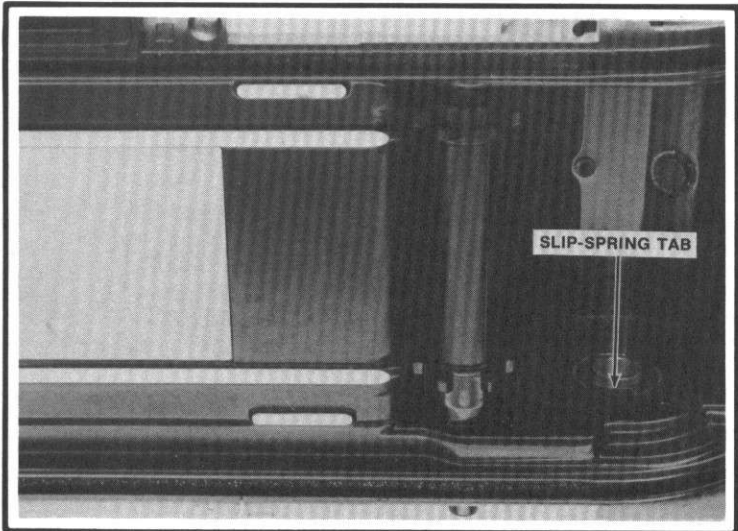

Figure 73
20. Lift out the loose take-up-spool gear at the bottom of the camera body (from inside the film chamber), Fig. 73.
1. Seat the take-up-spool gear, Fig. 73.
2. Replace the take-up spool. Make sure the slot in the bottom of the take-up spool fits over the tab on the slip spring, Fig. 73.